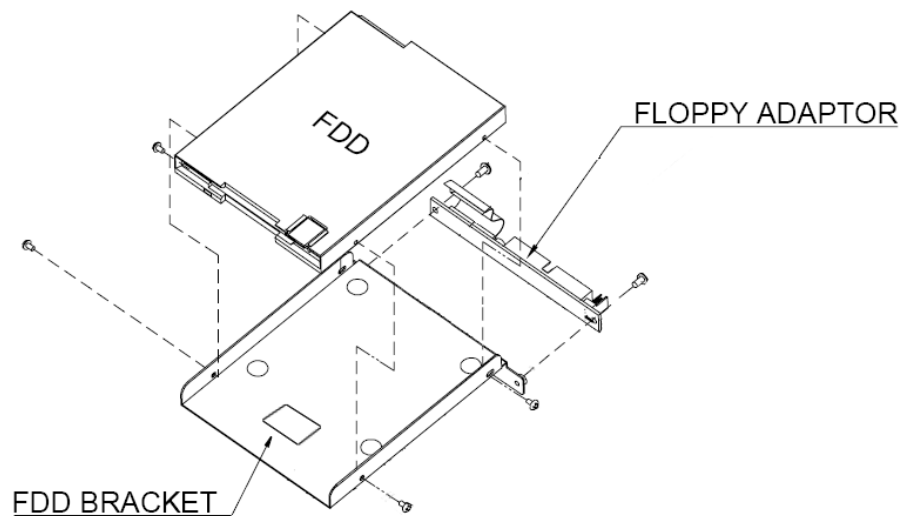

Figure 3-4: FDD Adapter and FDD Bracket Installation
Step 4: Attach the FDD adapter to the FDD by aligning the two retention screw holes in the FDD adapter with the retention screw holes on the rear side of the FDD bracket. Insert two retention screws into the adapter (**Figure 3-4**). Connect the FDD adapter and FDD with ribbon cable.